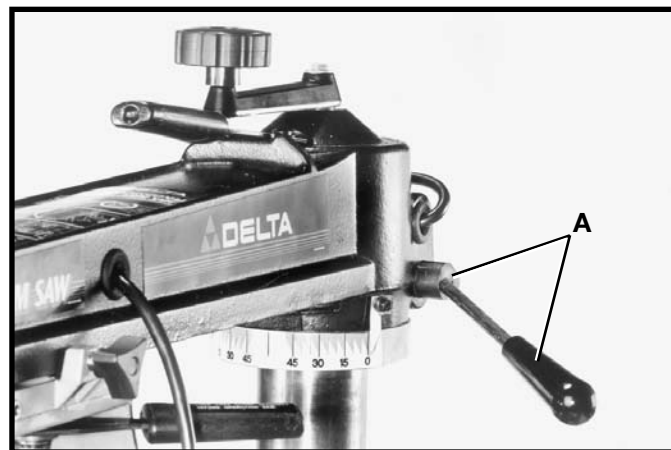
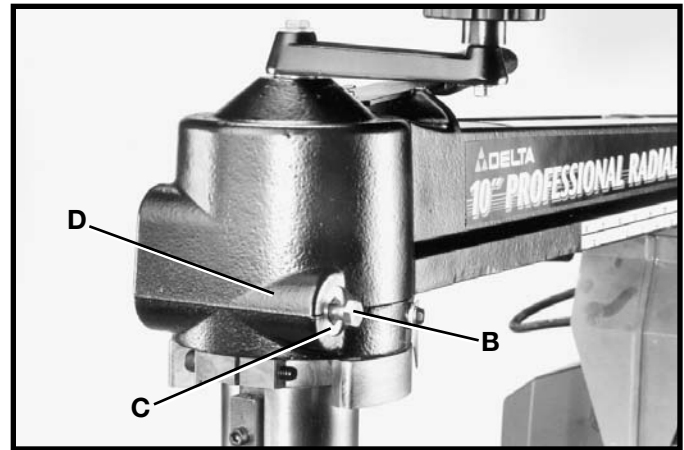
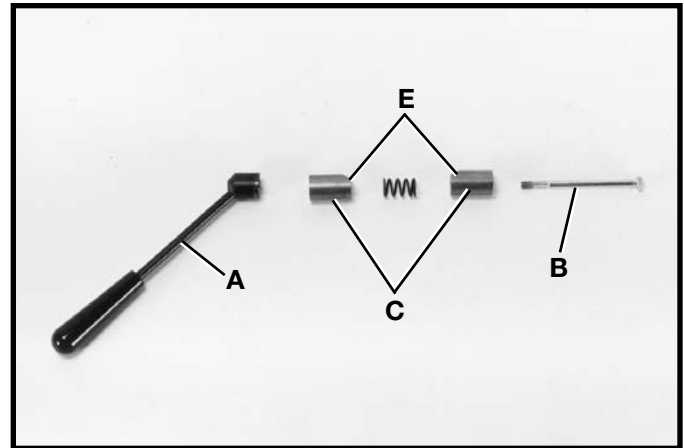

Fig. 66
Fig. 67
Fig. 68
When the track arm clamping handle (A) Fig. 66, does not lock in a convenient position, it may be repositioned as follows:
2. Loosen and remove track arm clamping lever (A) Fig. 66, and push hex bolt (B) Fig. 67, back through hole until head of bolt is out of the recessed bushing (C) as shown. **NOTE: Track arm clamping lever has left hand thread.**
3. Rotate hex bolt (B) Fig. 67, in the desired direction which the handle needs to be turned.
4. Push hex bolt (B) Fig. 67, back through hole. Make certain head of hex bolt is seated properly in recessed bushing (C), and reassemble track arm clamping lever. **NOTE:** If track arm clamping lever (A) Fig. 66, tightens before approximately four turns, it is possible the clamping bushings, one of which is shown at (C) Fig. 67, may have rotated. These bushings should be seated completely inside track (D) as shown. If they are not, slightly loosen clamping lever (A) Fig. 66, and rotate clamping bushing (C) Fig. 67, until it seats properly into track (D) as shown. It may be necessary to rotate bushing on clamp lever side also. Fig. 68, illustrates track arm clamping lever assembly unassembled for illustration purposes only. The flats (E) Fig. 68, on clamping bushings (C) should face the front of saw.
NOTE: Clamp lever (A) Fig. 68, will begin to thread at one of two positions. If after making the adjustment the clamp lever (A) tightens 180 degrees from where desired, slowly unscrew clamp lever (A) while holding in on hex bolt (B). When the clamp lever (A) comes off hex bolt (B), rotate clamp lever (A) 180 degrees. Then start to tighten clamp lever (A).